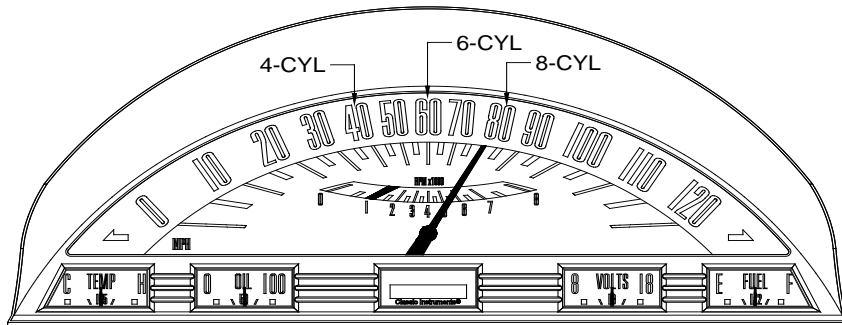

FIG. 3
- 1) Tap the pushbutton until the tachometer points to 1000 RPM (tachometer cylinder setup option). **Fig. 3**